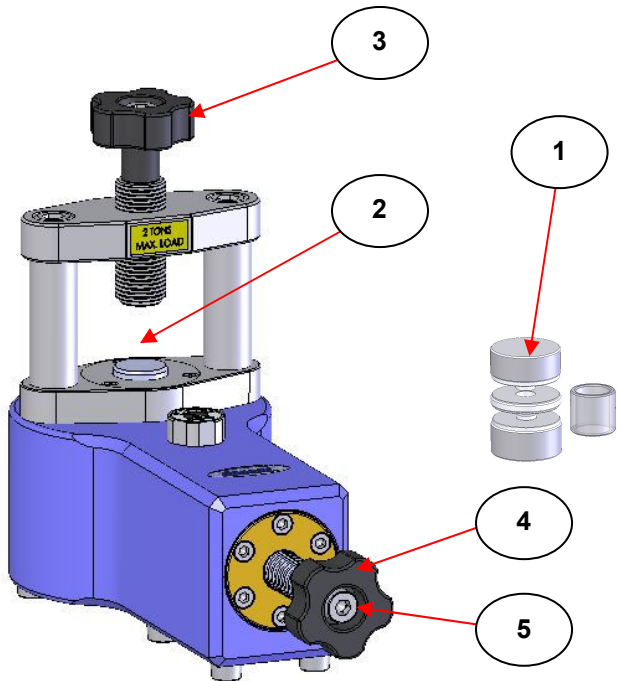

Fig 1. Mini-Pellet Press and 7mm Pellet Die Assembly
Making a 7mm KBr pellet is simple and quick. The 7mm pellet die assembly (1) is easily located within the pressing area of the Mini-Pellet Press (2). The lead screw assembly (3) is turned until hand tight to secure the 7mm pellet die assembly (1) in position in readiness to turn the pressure screw hand knob assembly (4). Only a light force is needed to turn the pressure hand knob (4) to provide a sufficient tonnage load, but the M8 Allen key provided can be used to turn the central socket screw (5) for greater leverage if desired. The produced 7mm KBr pellet is retained within the pellet die ring holder body (6) and this is transferred to a 3" x 2" slide mount (7) to fit in the spectrometer. (See Fig 1.)